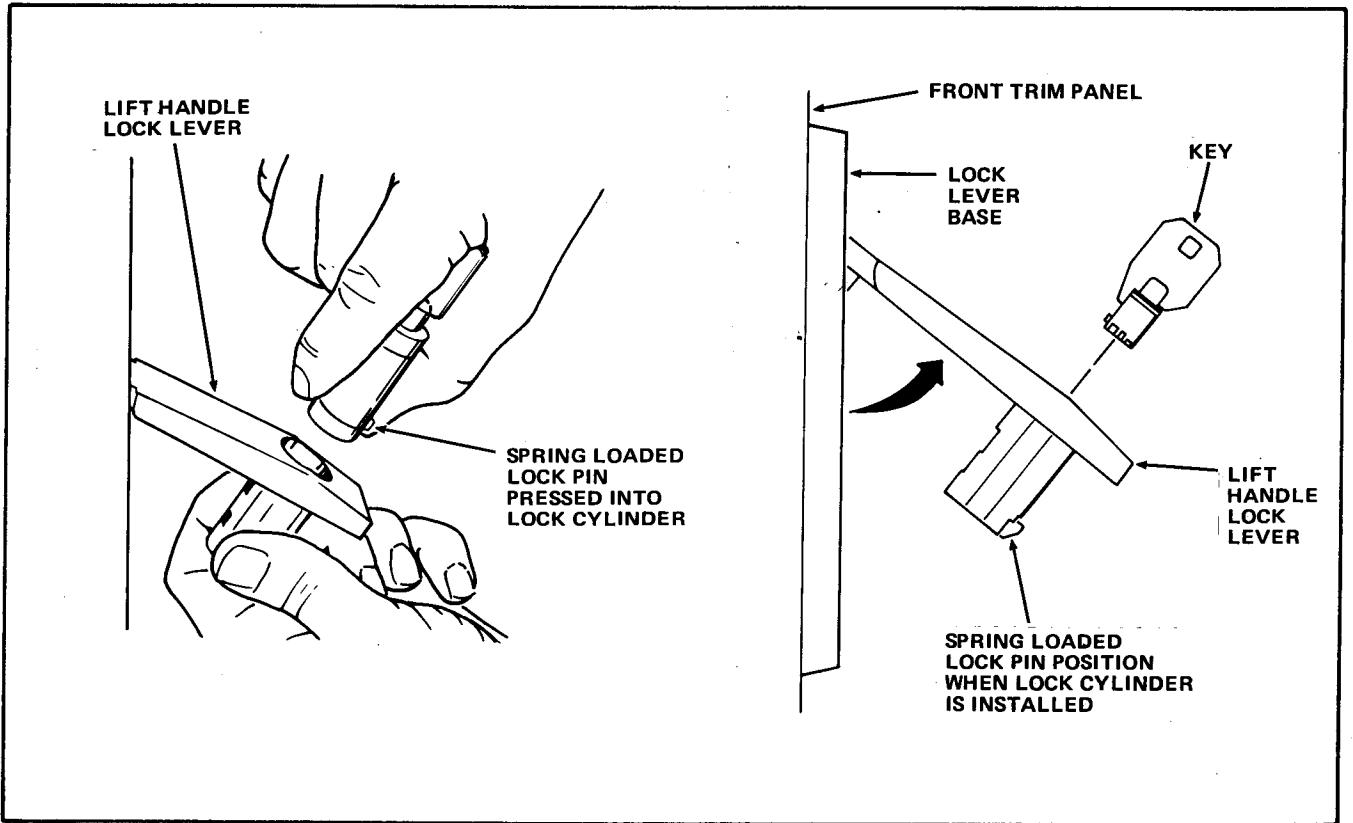

FIGURE 10
8. If the Lock to be used is a long-cylinder Lock, insert the Lock Cylinder into the Lift Handle Lock-pin down. DO NOT use the Lock Shock Absorber. See Figure 10.